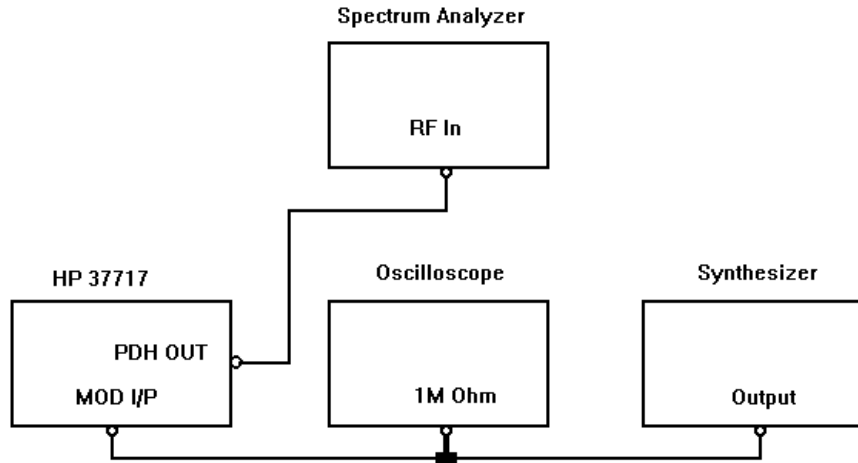

Figure 3-51
5. Connect up the equipment as shown in Figure 3-51.